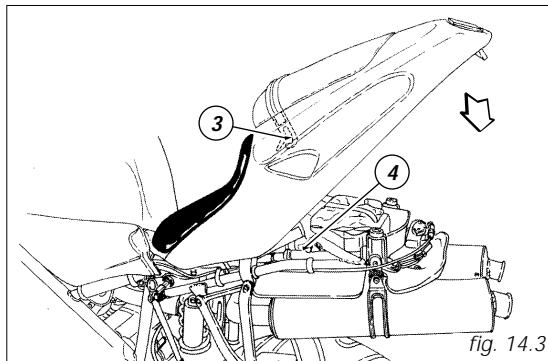

fig. 14.3
### **Opening** (fig. 14.1 and fig. 14.3)
**Closing** (fig. 14.3)